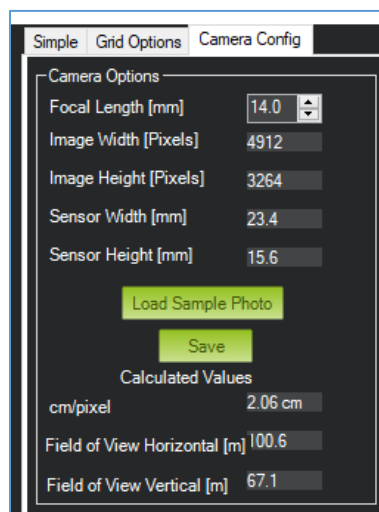

Figure 20 – Mission Planner Camera Config tab
10. On the camera config tab, set the values as shown in Figure 20.
11. Check the distance between flight lines on the Grid options tab and make sure it matches our desired line spacing. If not, adjust the focal length on the Camera config tab until the desired flight spacing is achieved. The values in Figure 20 will allow us to adjust the flight altitude while maintaining 30% side overlap.
**Note: If planning for camera, a sample photo can be loaded (Figure 20) to create a grid mission based on the camera properties.**